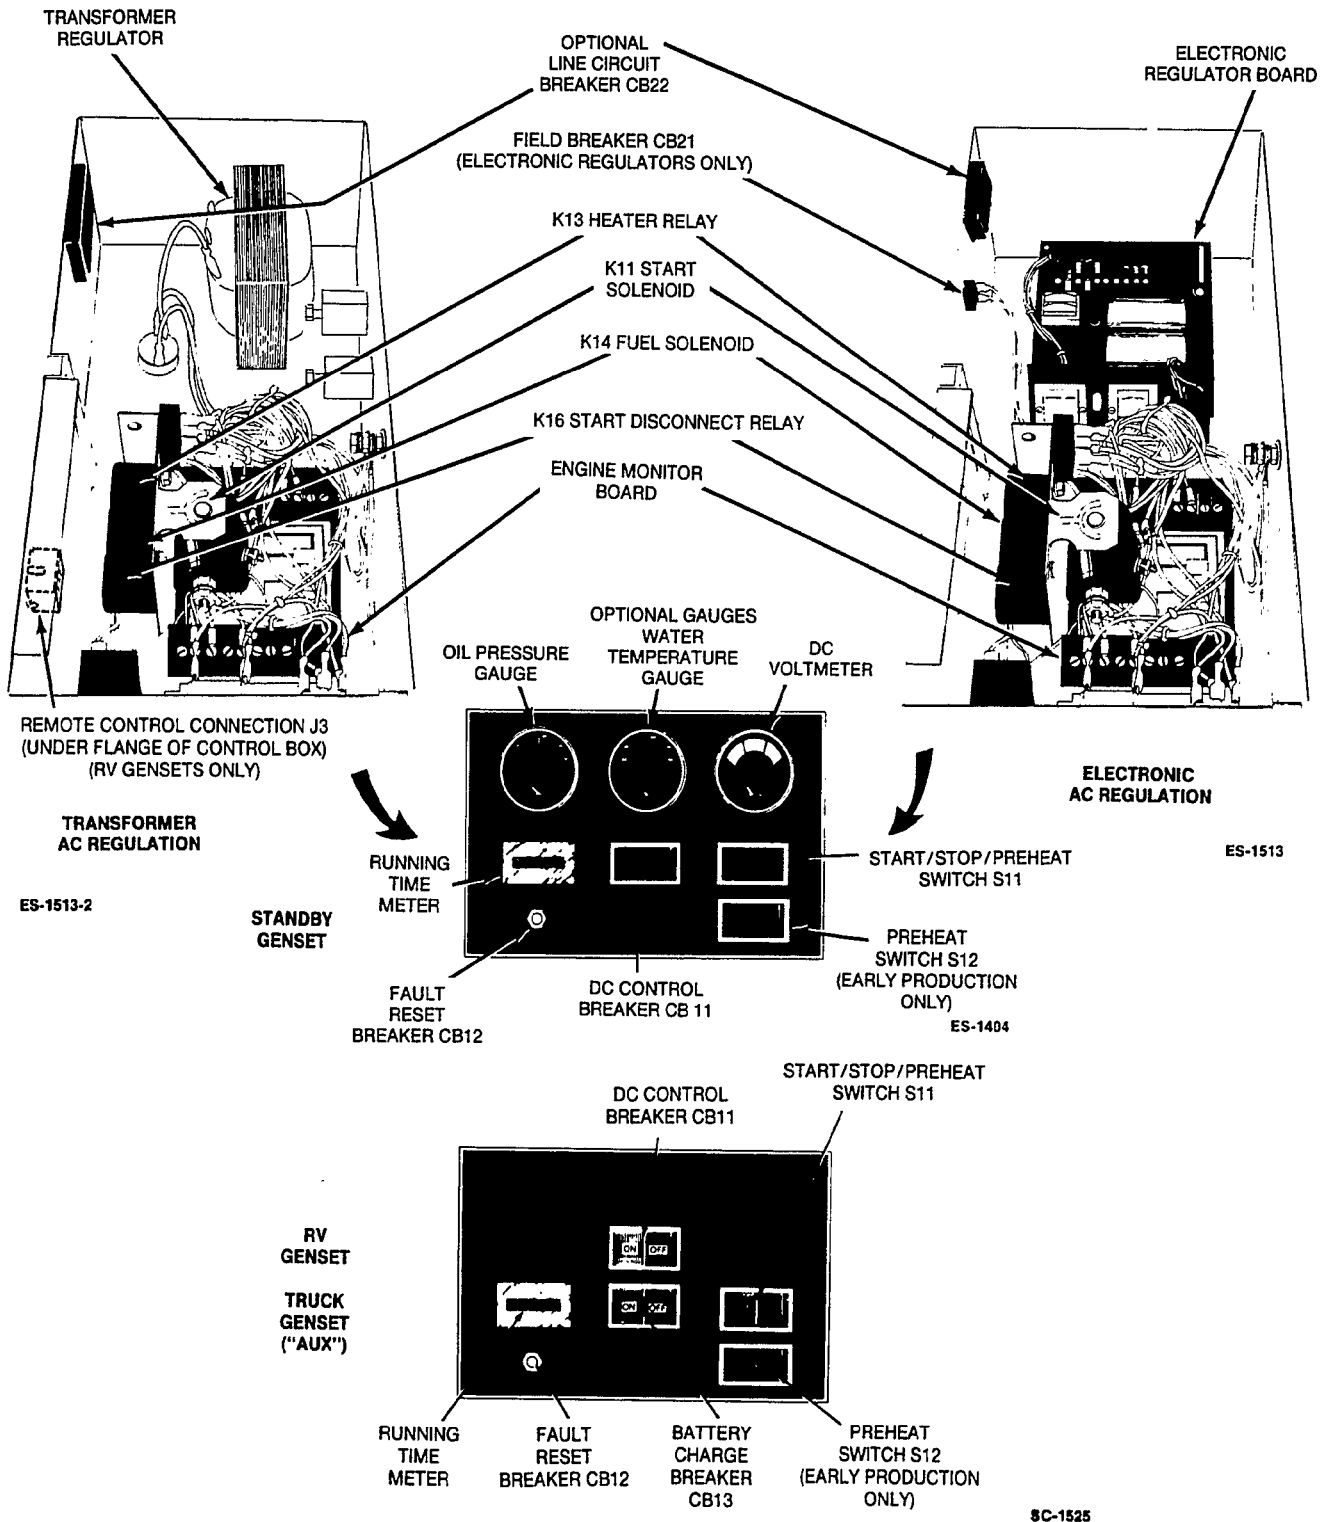

FIGURE 3-5. DKD RV CONTROL BOX COMPONENTS
**Oil Pressure Gauge (Optional):** Shows engine lubricating oil pressure. The gauge has a range of 0 to 100 psi (0 to 700 kPa) and is connected to an engine sensor. See Figures 3-5 and 3-6.
**Engine Monitor Circuit Board:** A printed circuit board that monitors engine control system functions. This includes starting, stopping, and fault system operations. A terminal board is included for making remote connections. See Figure 3-5.
To troubleshoot a problem, start at the upper-left corner of chart and answer all questions either YES or NO. Follow the chart until the problem is found, performing reference adjustment or test procedures. Refer to Figures 3-5 through 3-8 for locating control components, leads, terminals and other check points.